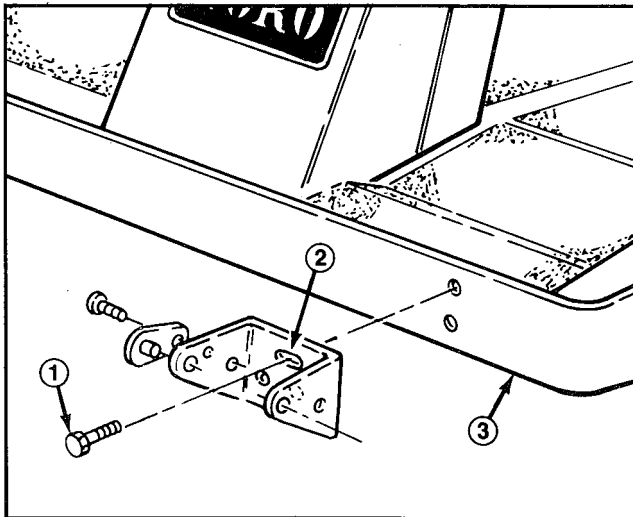

Figure 10
3. To install the mounting brackets, insert (2) 3/8-16 x 1" lg. flangehead capscrews through the slotted bracket holes. Thread the screws into the captivated frame nuts and torque to 45-50 ft-lb (Fig. 10).